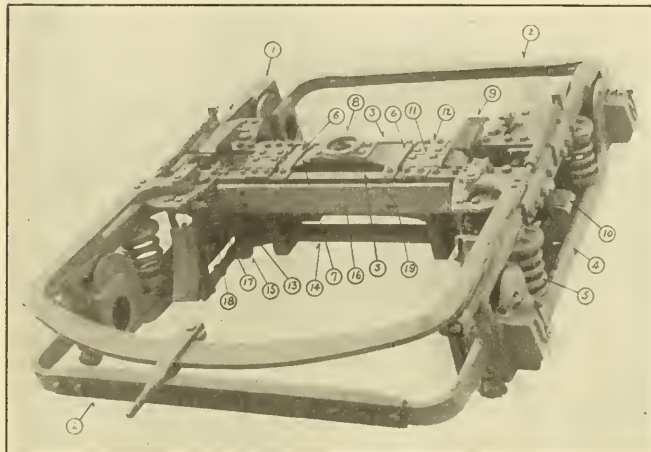

FIG. 3 A MOTOR TRUCK.
Before considering the modern methods of suspension, we will describe and point out the important parts of a modern railway motor truck. Fig 3 shows one of the latest trucks manufactured by the J. G. Brill Company. The truck consists of the side frames (1), which are tied together by the end frames (2), and the transom (3). Equalizer bars (4) and equalizer springs (5) are used. Between the sides of the transom (3), which are tied together by the transom tie bars (6), is located the bolster (7), on which is mounted the center bearing (8), and the side bearings (9). The bolster is carried on the bolster springs (10), so that same is free to move and the vibrations of the truck are not carried to the car body. Bolster chafing plates (11) and transom
By an "inside hung" motor we mean that the motor occupies the space between the axles and the transom. Take the truck shown in Fig. 3 and the motors
the name "outside hung." To provide for supporting the front of the motor (the back side is carried on the axle by the axle bearings), the end frames are extended and the cross bar (16), Fig. 3, with suspension springs (17 and 18) will bear on the end frame.
side frames of the truck. Referring to Fig. 3, the cross bar (16) is shown in position with the upper and lower suspension springs (17 and 18), for the purpose of preventing undue vibration of the motor, in place. The holes (19) in the cross bar receive the bolts which fasten the front of the motor frame to the bar. The back of the motor is carried on the axle by the axle bearings with no springs. Thus all of the springs and bars of the cradle, parallel bar and Gibbs' suspension are not used. It must be borne in mind that the motor of today is more compact and rugged than the motor of fifteen years ago, and they do not require as many springs to take up the vibrations.